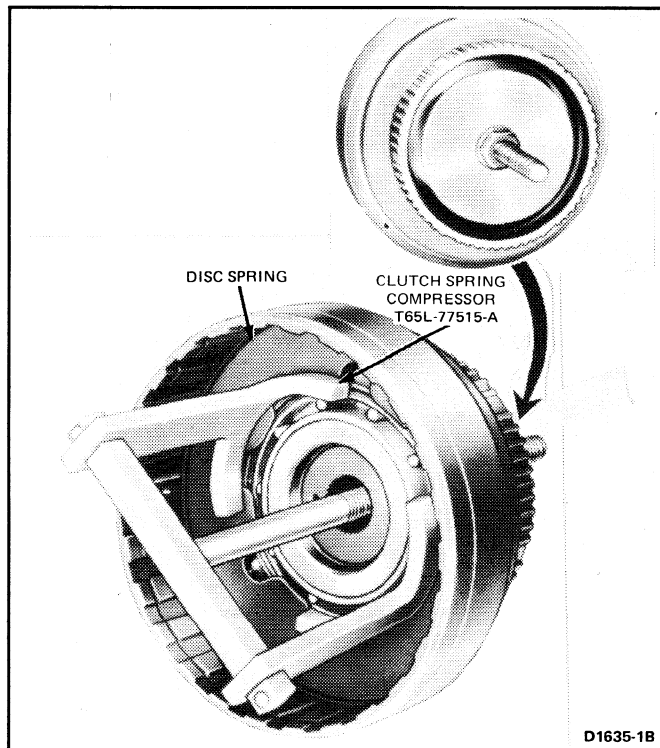

FIG. 50 Removing or Installing Disc Spring
3. Remove the snap ring (Fig. 50) that secures the disc spring in the clutch cylinder. Remove the disc spring using Tool T65L-77515-A.
4. Make sure that the steel pressure ring is in the groove on the piston. **Position the disc spring in the cylinder with the dished face downward.** Install the spring as shown in Fig. 50 so that the pressure ring and spring are in contact. Secure the disc with the retaining snap ring.